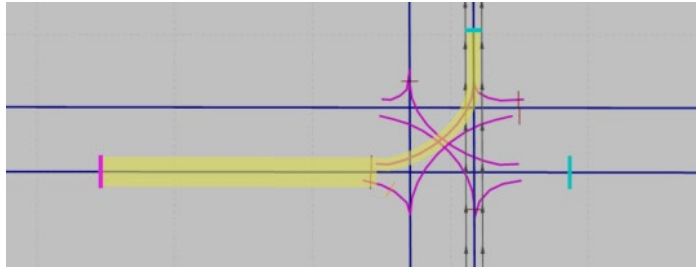

Figure 22: Left-turn vehicle route
- Left-click at that end location. You should again see the path highlighted in yellow (see Figure 22).